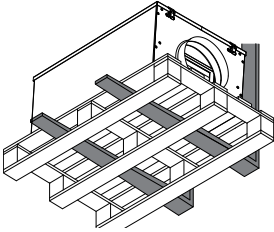

Fig. 4:
- If transported with a forklift it should be ensured that the product is resting with the basic profile or base frame completely on the forks or on a pallet and the product's centre of gravity is between the forks (see Fig. 4).